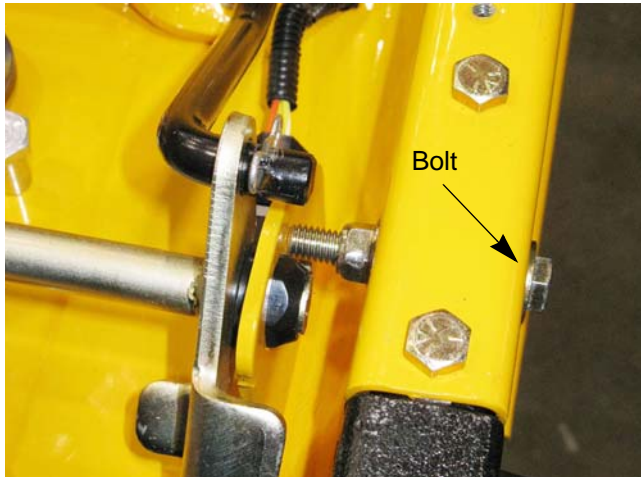

Figure 4.43
12. Remove the bolt that is pressing against the left control pedal shaft bracket and its nut using a pair of 9/16" wrenches. See Figure 4.43.